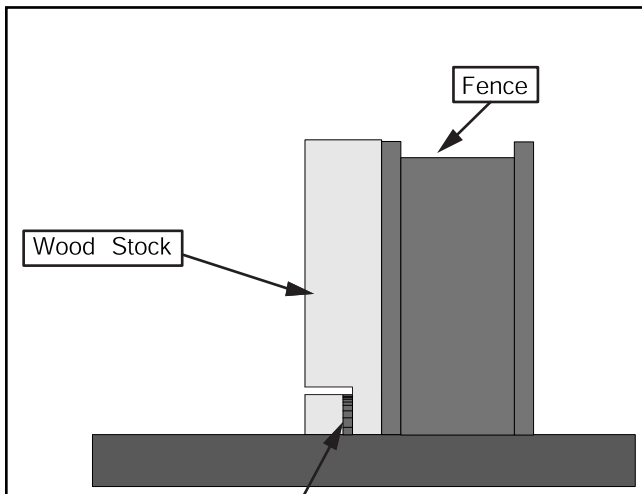

Figure 57. Rabbit cutting.
Commonly used in furniture joinery, a dado is a straight channel cut in the face of the workpiece. Dados can be cut using either a dado blade (Figure 57) or a standard saw blade.
7. Rotate the workpiece as shown in **Figure 57**.